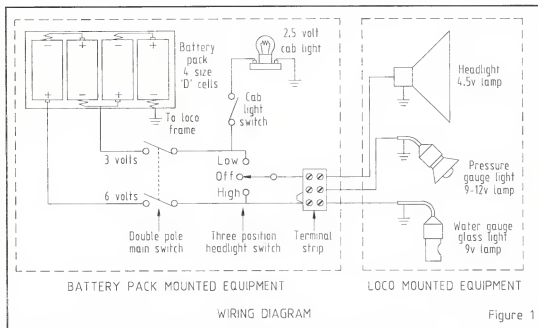

Figure 1
Figure 1 shows the circuit diagram of the lighting system used on the Perry. The headlight was fabricated from an assortment of
FIG. 1, 267 - Westinghouse two cylinder, single acting engine. The valve H, is of the hollow piston type. The steam ports P, are in the heads of the cylinders. A, which are single acting, the pistons N, are directly connected to the connecting rods (O), by means of wrist pins. The crank shaft and crank are engaged in the crank pin B, which is formed by the frame of the engine. A, as to the oil chamber can be held by the removal of plate P. The end of the crank shaft carries the short governor wheel (L), which uses the valve lever of the maker arm (J), to the K. The cut-off is regulated by the eccentric